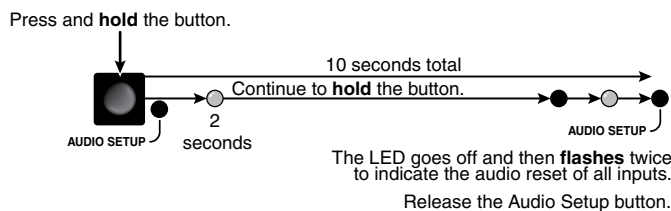

Figure 3-39 — Reset all input levels
- Press and **hold** the Audio Setup (I/O) button for approximately 10 seconds (figure 3-39).